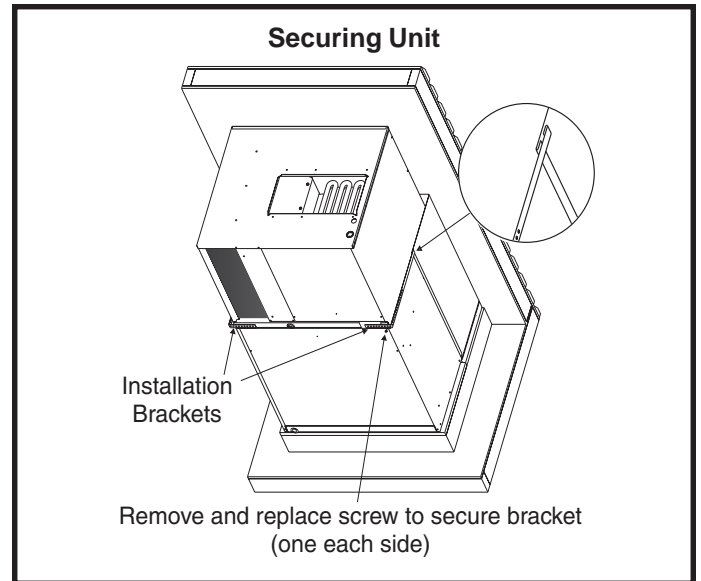

Figure 4
4. Use the two installation brackets to secure the unit to the wall sleeve (see Figure 4). The units are shipped with the brackets placed in the return air compartment. Hook each bracket into the front edge of the wall sleeve side. Position the bracket so it can be bent around the front corner of the unit. Remove one of the two screws in that position on the unit. Line up one of the holes in the installation bracket with the screw hole and attach the bracket to the unit with that screw. Make sure to fasten tight enough that the seal is maintained. Trim off excess bracket if applicable.